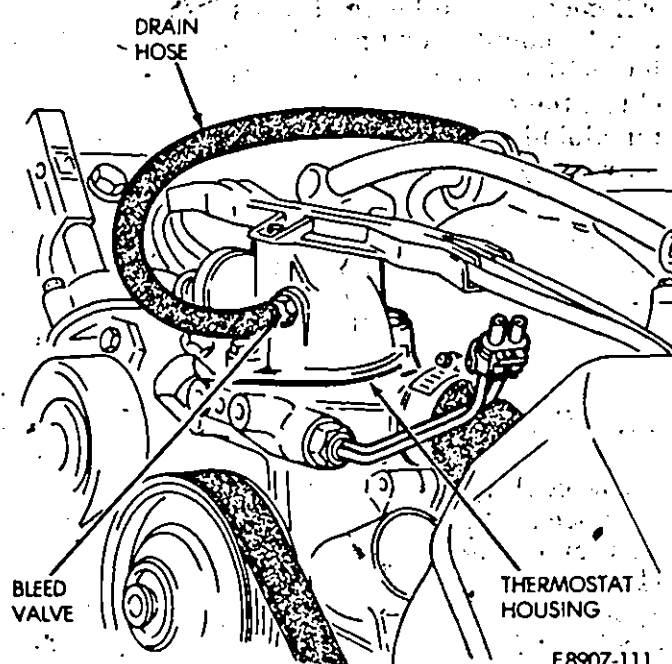

Fig. 20—Air Bleed Valve on Thermostat Housing
(4) Attach one end of a 6.35 mm (.250 in) ID hose that is approximately 1219 mm (48 in) long, to the bleed valve on the thermostat housing (Fig. 20). Route the hose away from the accessory drive belt, drive pulleys and electric cooling fan. Place the other end of hose into a clean container. The hose will prevent coolant from contacting the accessory drive belt when bleeding the system during the refilling operation.
- (5) Open bleed valve.
(1) Attach one end of a 6.35 mm (.250 in) ID hose that is approximately 1219 mm (48 in) long, to the bleed valve on the thermostat housing (Fig. 20). Route the hose away from the accessory drive belt and pulleys. Place the other end of the hose into a clean container. The hose will prevent coolant from contacting the accessory drive belt and drive pulleys.
- (2) Open bleed valve.
(3) Slowly fill coolant pressure bottle until a steady stream of coolant flows from hose attached to the bleed valve.
(4) Close bleed valve and continue filling to the full mark of the coolant pressure bottle. The full mark is the top of the post inside the bottle.
- (5) Install cap tightly on coolant pressure bottle.
- (6) Remove hose from bleed valve.
(7) Start and run engine until the upper radiator hose is warm to the touch.
- (8) Turn engine off.
(9) Reattach drain hose to bleed valve on thermostat housing. Route hose away from the accessory drive belt, accessory drive pulleys, and electric cooling fan.
(10) Open bleed valve until a steady stream of coolant flows from the hose.
- (11) Close bleed valve and remove hose.